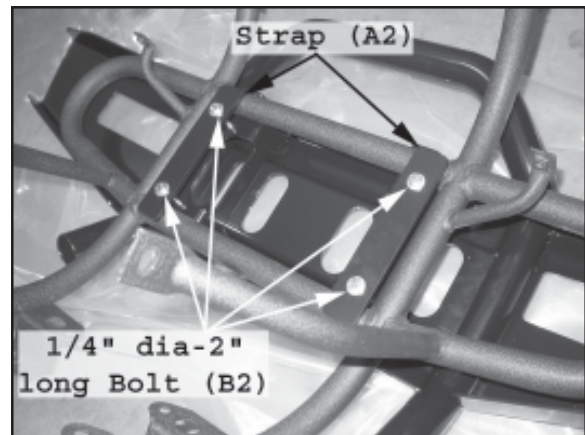

Figure 6 Attach Warn Bumper to Yamaha Bumper
8. Place the Straps (A2) over the top of the Yamaha bumper and clamp the straps to the bumper by securely attaching four 1/4" dia-2" long Bolts (B2) as shown in Figure 6.